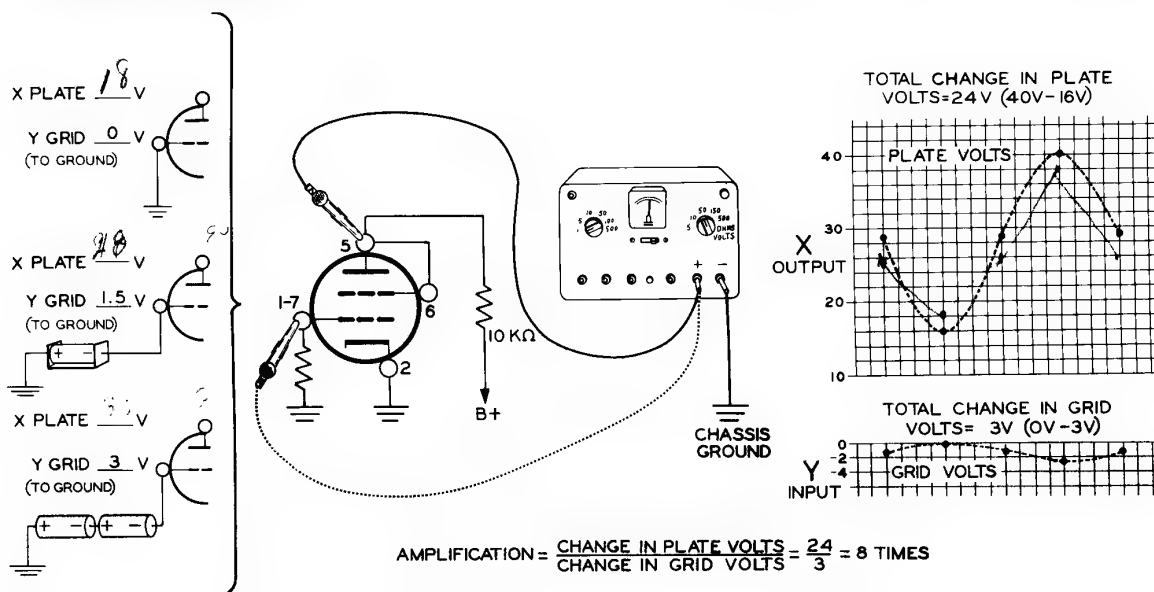

Figure 3W
Figure 3W shows the 6AQ5 pentode connected as a triode. The screen grid of the tube, pin 6, has been connected to pin 5 (the plate of the tube). This makes the tube act like a triode (the suppressor grid will not be able to perform in its normal manner).
In this experiment, 1-1/2 volt batteries connected to the grid of the triode will be used to simulate a signal at the grid. Changing the number of batteries (and therefore the voltage) at the grid, changes the plate current just as an AC signal would. The three voltages at the grid (input), indicated by the letter Y, are plotted on Graph Y at the lower right of the meter in Figure 3W. The three voltage readings at the plate (output), indicated by the letter X, are shown in Graph X to the right of the meter.
- () ① Connect the negative lead of a flashlight cell to pin 1 of the 6AQ5 (S). Connect the positive lead of this flashlight cell to the chassis of the EK-2 (S).
- (✓) ① Connect a second flashlight cell in series with this first flashlight cell, by connecting the negative lead of the new cell to pin 1 of the 6AQ5 socket (S). Connect the positive lead of the new cell to the negative lead of the first cell (S).
- (✓) Now mark a dot for each of your voltage readings in the proper positions in waveform X of Figure 3W. Mark the dot that represents the middle voltage reading down three times just as in the waveform now indicated on Graph X. Now connect your five dots together to give you the correct simulated sine wave for your amplifier stage.